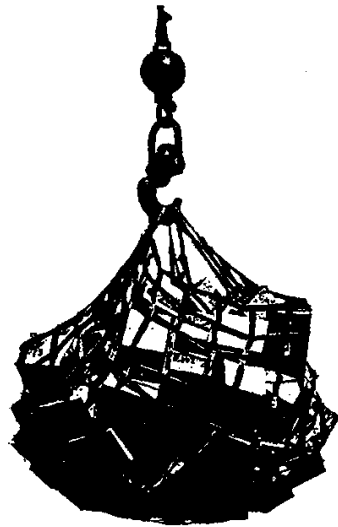

Fig. 7-1c Cargo net
- c A save-all is a device used to prevent the loss of cargo overboard. The most common type of save-all is the cargo net. However, wood platforms, wire rope nets, or tarpaulins may also be used. There should be a save-all rigged wherever light cargo handling is taking place between the ship and pier (See **Figure 7-1c**.)